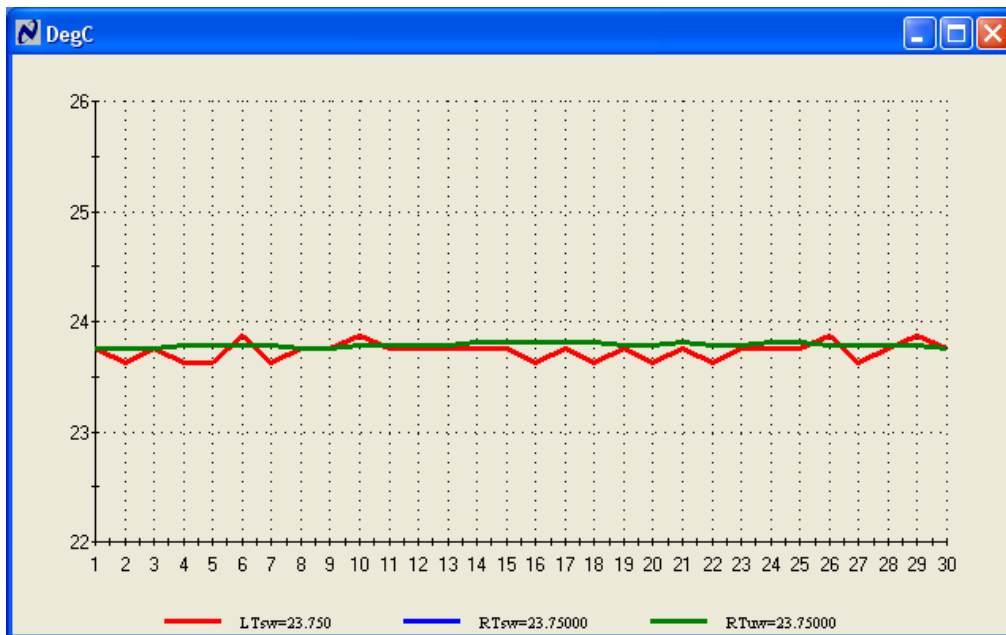

Figure 11
15. If the user clicks on the Start Plot button, a graph will appear and will graph the temperature as shown in Figure 11 below.